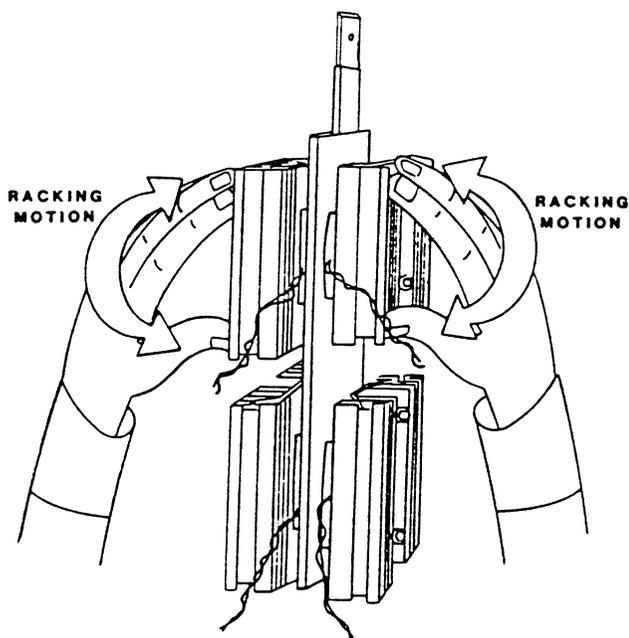

Figure 5-6. Starting Torque Check - Racking
(1) Hold heat sink assembly as shown in Figure 5-6 and apply pressure to the outside heat sinks as shown by arrows to check racking (rocking motion from end to end). If racking DOES NOT occur, starting torque must be decreased (back off nuts).
(2) Tighten each nut a small amount, then check again for racking. Continue tightening and checking until the point is reached where racking no longer occurs. Starting torque is now correctly set.